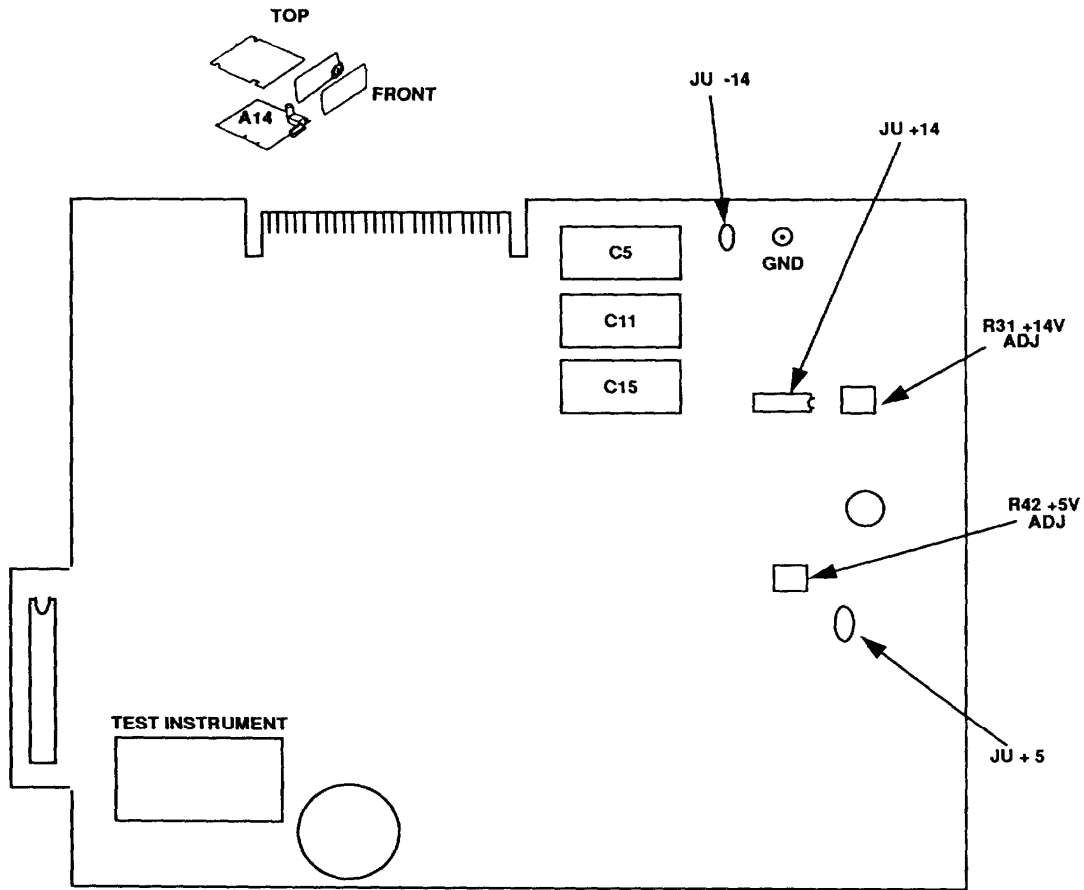

Figure 4. Transmitter A14 board - component locations.
- (1) Connect multimeter **Input HI** to JU+5 (fig. 4) and **LO** to ground. If multimeter does not indicate between 4.8 and 5.2 V dc, perform **b** (1) below.
- (2) Connect multimeter **Input HI** to JU+14 (fig. 4). If multimeter does not indicate between 13.8 and 14.2 V dc, perform **b** (2) below.
- (3) Connect multimeter **Input LO** to JU-14 (fig. 4) and **HI** to ground. Multimeter will indicate between -13.75 and -14.25 V.
- (1) Adjust R42 +5V ADJ (fig. 4) for a +5 V dc indication on multimeter.
- (2) Adjust R31 +14V ADJ (fig. 4) for a +14 V dc indication on multimeter.